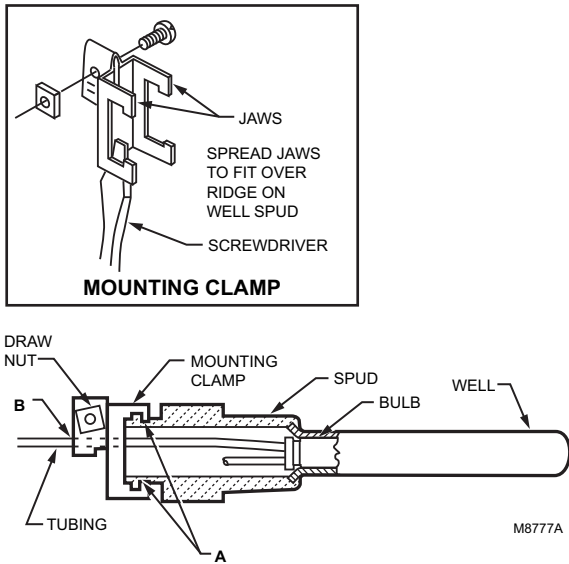
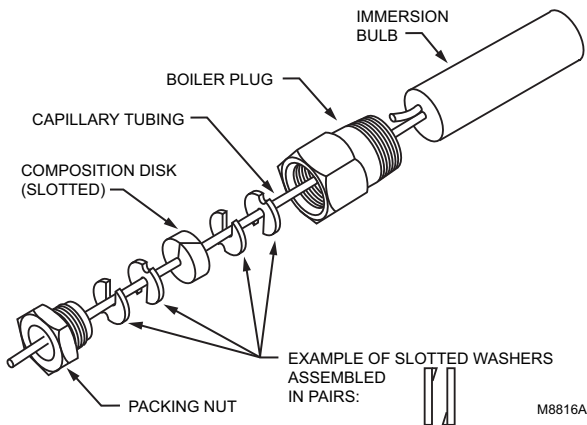

Fig. 4. Immersion well fitting for L8100 remote bulb.
Fig. 5. Capillary compression fitting for L8100 remote bulb.
6. With mounting clamp attached to well spud (make sure jaws of clamp hook over ridge at end of spud, as shown at points A in Fig. 4), adjust tubing to fit through mounting clamp groove, as shown at point B in Fig. 4.
The remote temperature sensing bulb is installed in an immersion well (Fig. 4) or located near a capillary compression fitting (Fig. 5) that extends into the upper portion of the tank to prevent stacking.
6. Place composition disk and four slotted brass washers on tubing in order shown in Fig. 5. Turn brass washers so slots are 180 degrees apart.